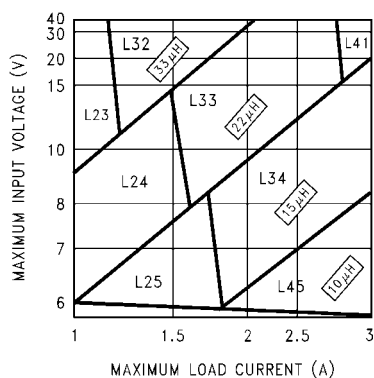
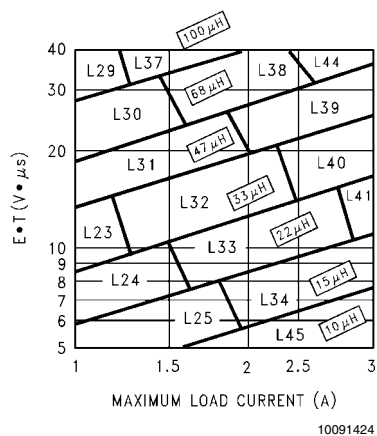

FIGURE 3. LM2676-3.3
FIGURE 6. LM2676-ADJ
**Step 3:** Determine the inductor required by using one of the four nomographs, *Figure 3* through *Figure 6*. Table 1 provides a specific manufacturer and part number for the inductor.
**Step 5:** Determine an input capacitor from Table 4 for fixed output voltage applications. Use Table 2 to find the specific capacitor type. For adjustable output circuits select a capacitor from Table 2 with a sufficient working voltage (WV) rating greater than  $V_{in\ max}$ , and an rms current rating greater than one-half the maximum load current (2 or more capacitors in parallel may be required).
**Step 3:** Use the nomograph for the 3.3V device, *Figure 3*. The intersection of the 16V horizontal line ( $V_{in\ max}$ ) and the 2.5A vertical line ( $I_{load\ max}$ ) indicates that L33, a 22 $\mu$ H inductor, is required.
**Step 3:** To use the nomograph for the adjustable device, *Figure 6*, requires a calculation of the inductor Volt•microsecond constant ( $E \cdot T$  expressed in  $V \cdot \mu s$ ) from the following formula:
Using *Figure 6*, the intersection of 27V• $\mu s$  horizontally and the 2A vertical line ( $I_{load\ max}$ ) indicates that L38, a 68 $\mu$ H inductor, should be used.
**Important Note:** When using the adjustable device in low voltage applications (less than 3V output), if the nomograph, Figure 6, selects an inductance of 22 $\mu$ H or less, Table 6 does not provide an output capacitor solution. With these conditions the number of output capacitors required for stable operation becomes impractical. It is recommended to use either a 33 $\mu$ H or 47 $\mu$ H inductor and the output capacitors from Table 6.